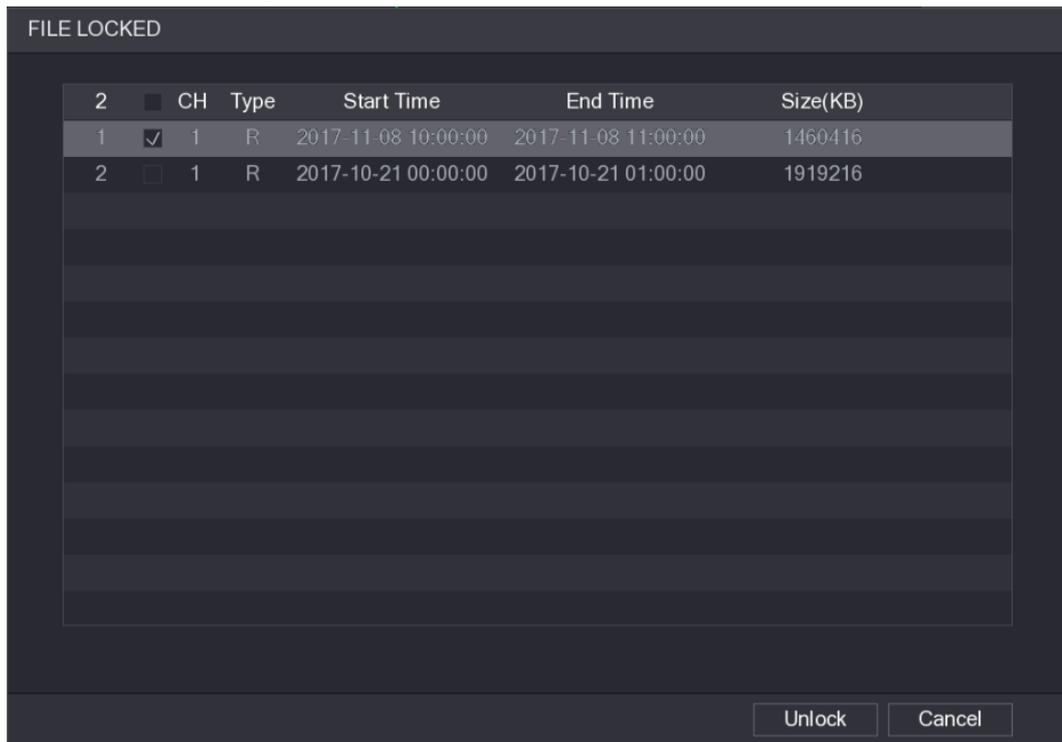

Figure 5-105
- To unlock the recorded video, in the **FILE LOCKED** interface, select the video, and then click **Unlock**. See Figure 5-105.